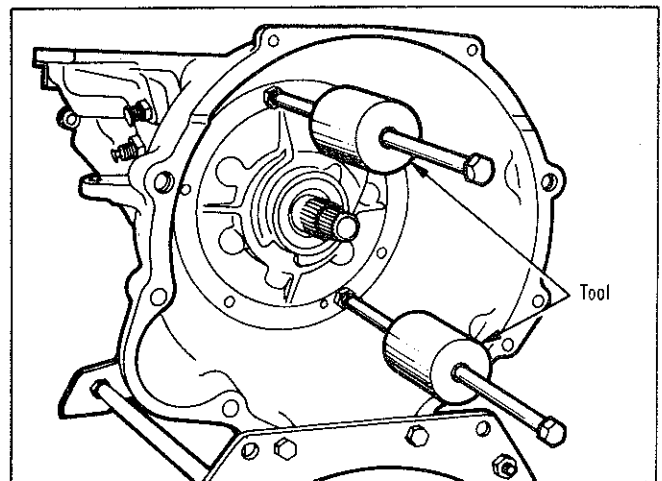

Fig. 34—Removing pump and reaction shaft support assembly
- (1) Tighten front band adjusting screw until band is tight on front clutch retainer. This prevents clutch retainer from coming out with pump which might cause unnecessary damage to the clutches.
- (2) Remove oil pump housing retaining bolts.
- (3) Attach Tool E21C35D to pump housing flange, (Fig. 34), in threaded holes in the flange.
- (4) Bump outward evenly with the two "knocker weights" to withdraw pump and reaction shaft support assembly from the case.